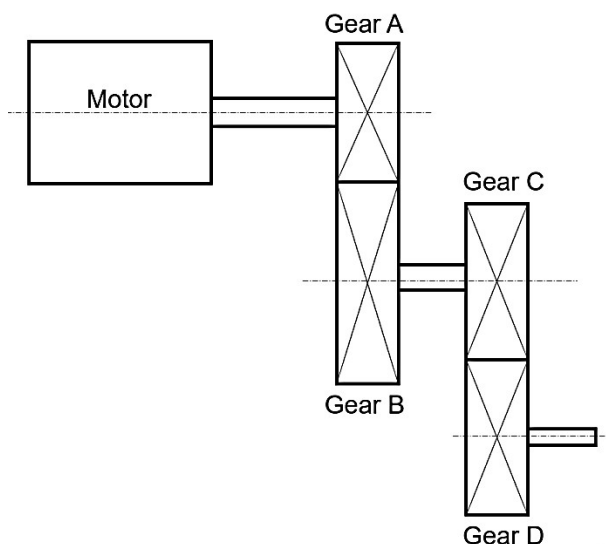

FIGURE 2
- 5.1 FIGURE 2 (below) shows a compound gear train. There are two driving gears and two driven gears. Gear A has 20 teeth and rotates at 120 r/min. It is mounted on the driving shaft and is coupled to a motor with a power of 25 kW. Gear B has 30 teeth, gear C has 25 teeth and gear D has 35 teeth.